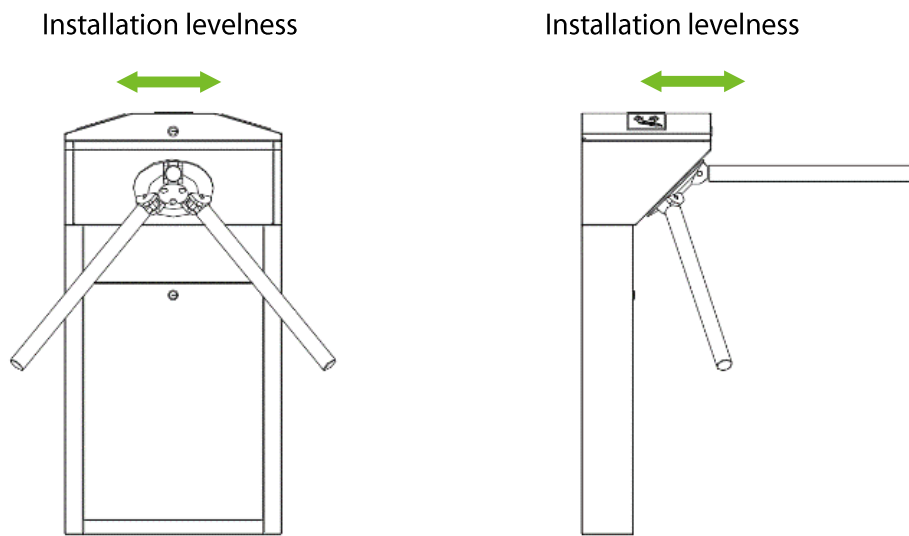

Figure 3-5
3. Install the turnstile on the mounting plate and tighten the screws. Apply screw securing glue before using and putting gaskets on the screws to adjust the direction of the turnstile. If the tripod turnstile is not levelled, you can place gaskets to adjust, as shown in Figure 3-5.